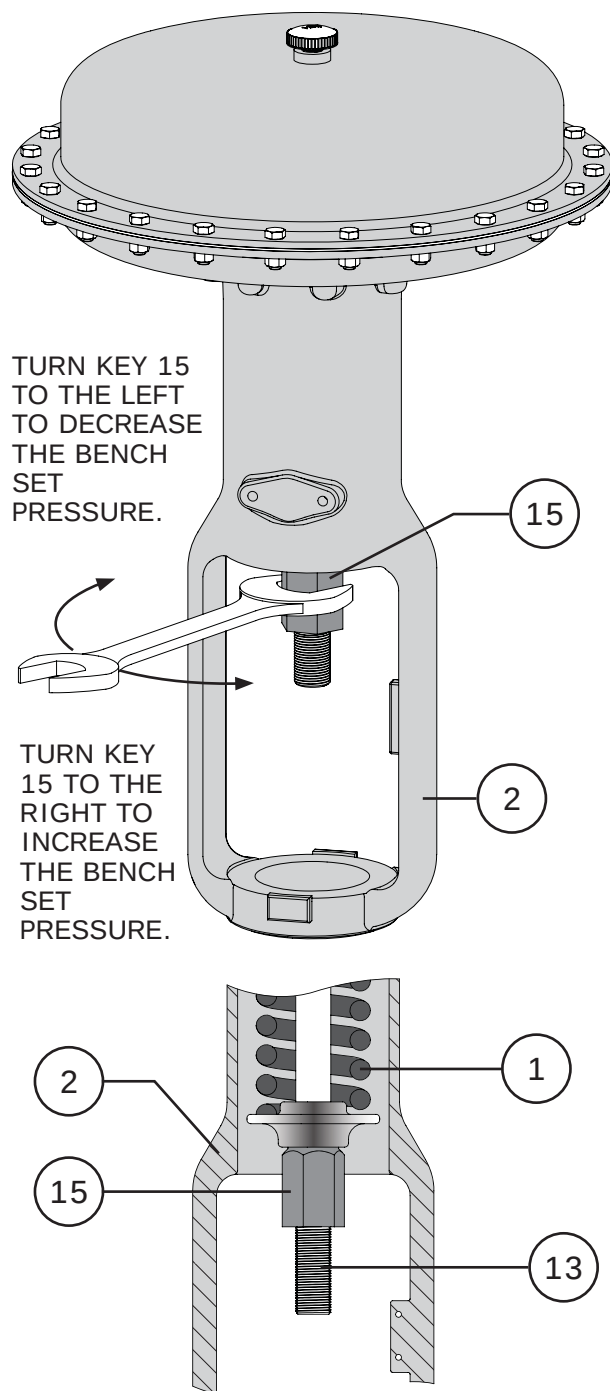

Figure 5 Spring Adjustment
Adjust the spring adjuster (Key 15) to the right (counter-clockwise) to increase the bench set pressure required. It may be necessary to lower the loading pressure to make adjustments to the spring adjuster. Refer to Figure 5.
Adjust the spring adjuster (Key 15) to the left (clockwise) to decrease the bench set pressure required. It may be necessary to lower the loading pressure to make adjustments to the spring adjuster. Refer to Figure 5.
- 2 Remove all spring tension by turning the spring adjuster (Key 15) counter-clockwise (to the left). Refer to Figure 5. For handwheels or travel stops, refer to Pages 20 & 52.